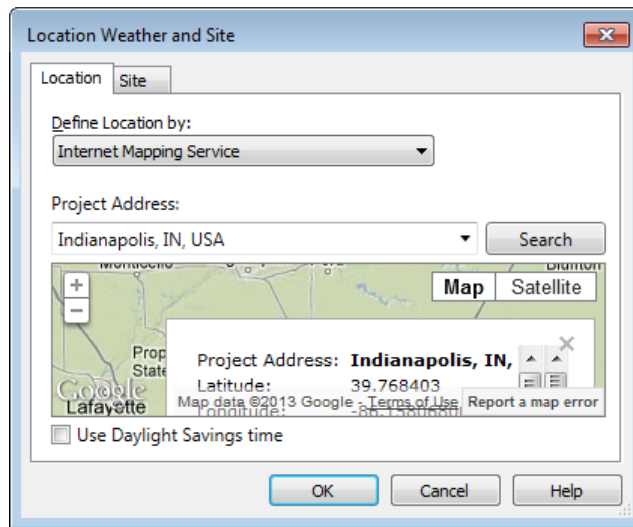

Figure 3-55 The desired location displayed in the **Location Weather and Site** dialog box
3. In the **Project Address** edit box, delete the default text, and enter **Indianapolis**, and then choose the **Search** button; the desired location is displayed on the map in the area below the edit box. Note that the search uses the Google Map service to display the location, refer to Figure 3-55.